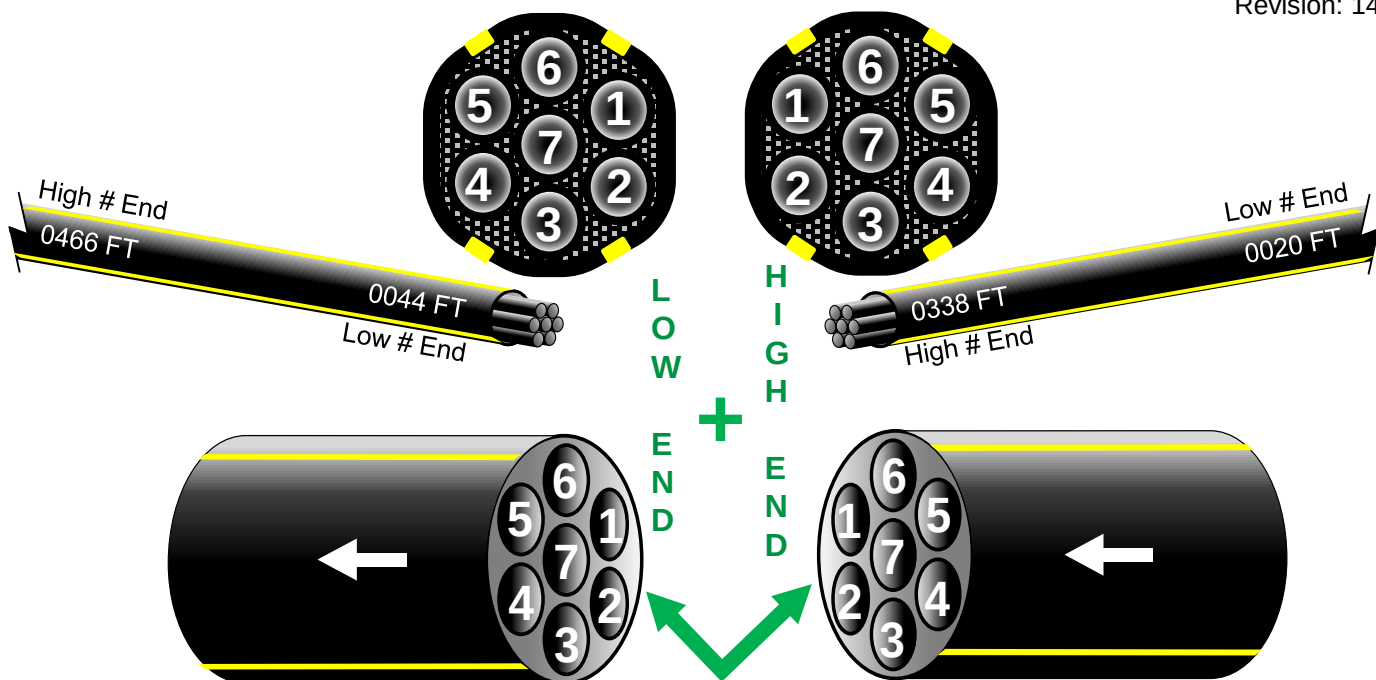

Figure 9
12.4 If the Low # End of one Tube Cable will mate to the High # End of the other Tube Cable, when coupled, the tubes will not be crossed or twisted and the desired straight-through connection can be made. (A Low-to-High or High-to-Low condition is good.) **See Fig. 9.**